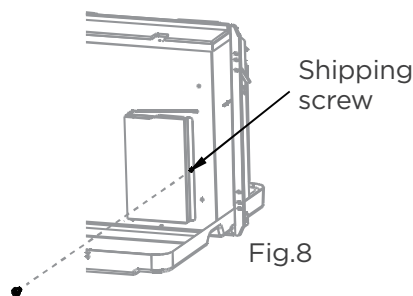

Fig.8
- Remove the shipping screw from the vent door. (See Fig.8)